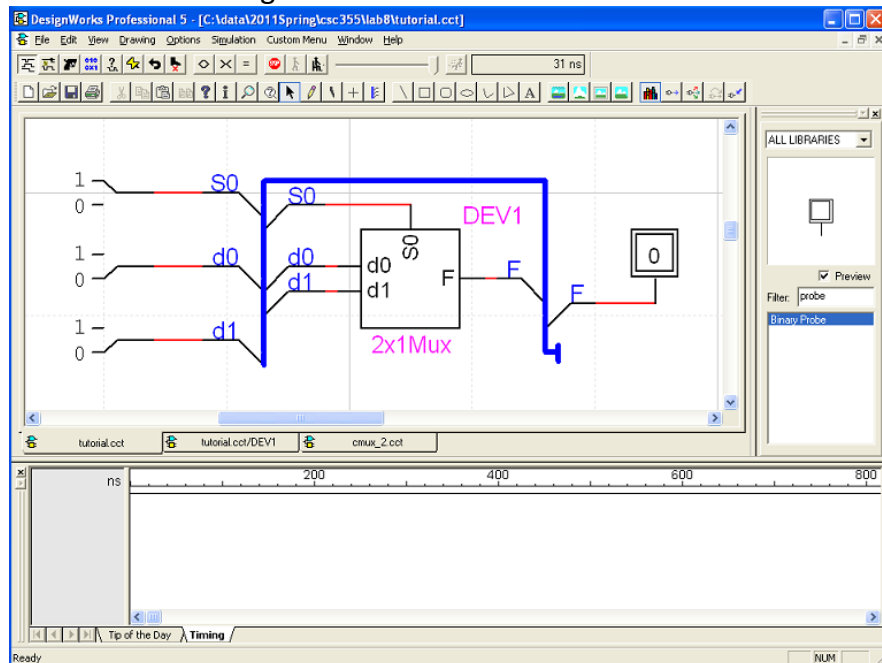

Figure 17
- f. Right click on the highlighted pin and select “Flip Horizontal” to flip the pin. Note the pins “d1” and “d0” should be switched before being connected to the pins of the 2x1 Mux. Add Logic Switches and a probe to demonstrate circuit functionality. The final circuit is shown in Figure 17.